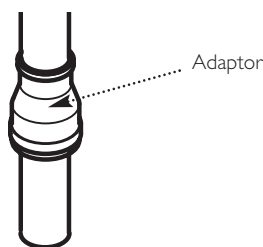
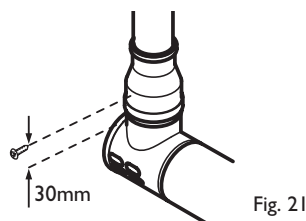

Fig. 22
Fig. 21
9. The 60Ø exhaust can now be fitted. Slide the adaptor over the plain end of the 60Ø exhaust (Fig. 22) and engage the exhaust in the terminal. Slide the adaptor down over the spigot. Mark and drill the adaptor, using a 2mm bit, as shown in Fig. 21. Secure the adaptor to the spigot using one of the screws supplied.